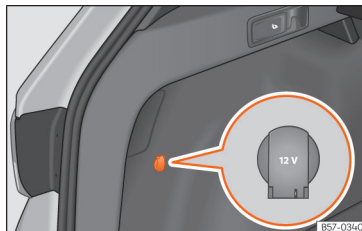

Fig. 169 Detailed view of the side trim in the boot: 12-volt power socket.
- Lift the power socket cover »» **Fig. 169**.